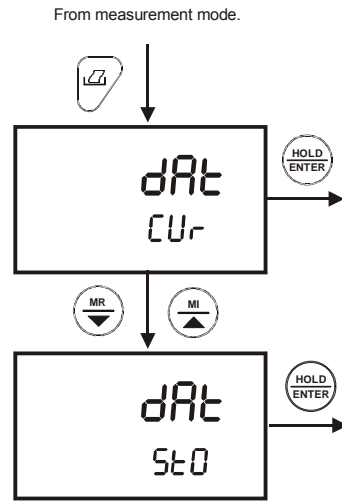

Figure 9: Print data based on timed interval or from memory
2. Use MI/▲ or MR/▼ key, select “dAt – StO” option and press HOLD/ENTER key. See Figure 9.